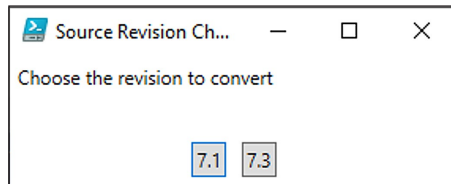

Figure 54. The Source Revision Ch... dialog box.
STEP 4. Press the <Enter> key on the keyboard to run the script. The Source Revision Ch... dialog box opens. See Figure 54.
STEP 6. When the Choose a Settings File to Load dialog box opens, browse to the folder containing the IntelliRupter fault interrupter .xspt files based on the file selection in Step 5. Select the file(s) to be converted and click on the **Open** button. See Figure 54.